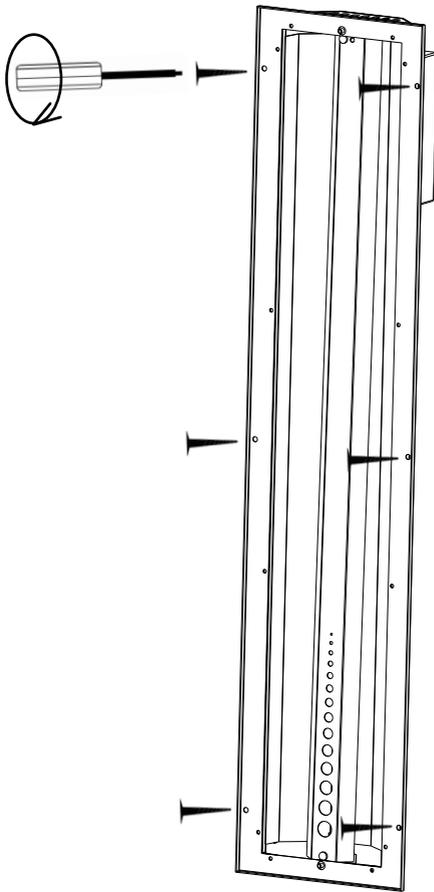

Fig. 7 Position of the screws
8. Screw the infrared heater tight to the cabin wall using the wood screws (3 x 40 mm) provided. See Figure 7.